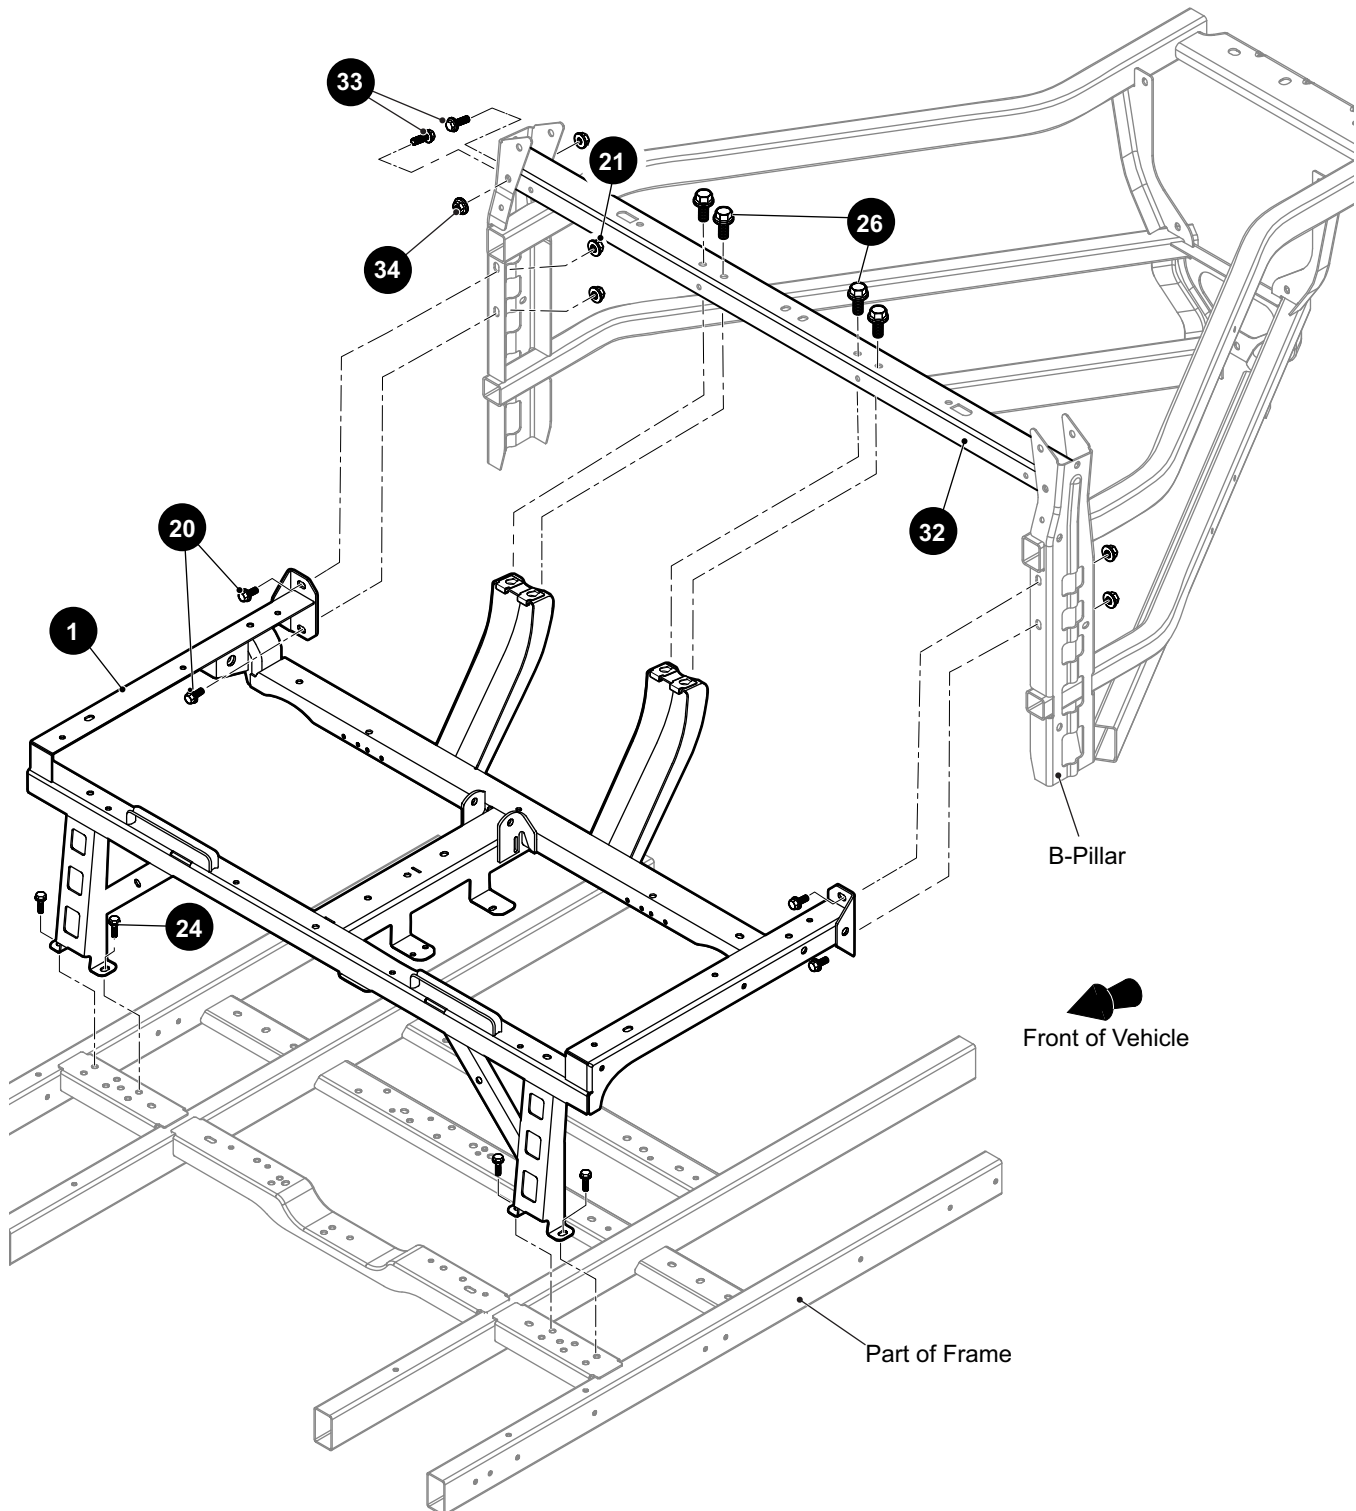

Fig. 5 Seat Frame
1. Remove the bolts (38) that secure the rear shock tower brace (32) to the frame (1) (Ref. Fig. 5). Remove the brace.